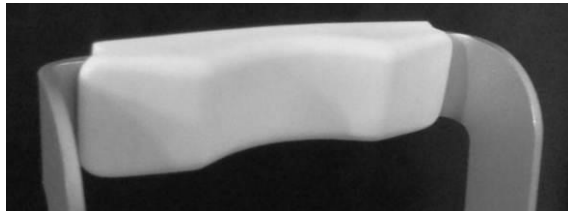
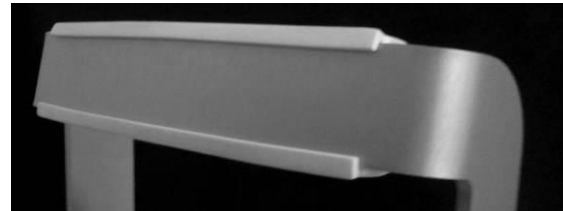

Figure 3 - Forehead rest patient side
Figure 4 - Forehead rest rear side
- attach the silicon forehead rest (included in the tool box) on the forehead rest frame as shown in the pictures below (Figure 3 and Figure 4);